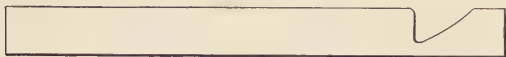
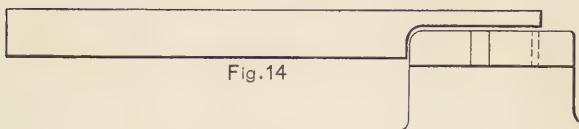
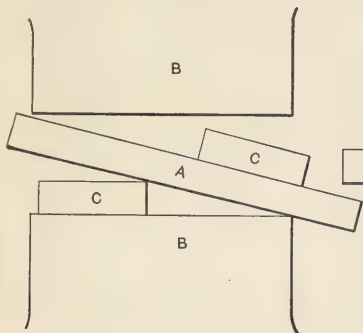

Fig. 13
Fig. 14
Fig. 19.
**Cutting-off Tool.**—The first lathe tool that we will take up will be the cutting-off or parting tool. Fig. 13 shows how it should be made. Always use the set hammer shown in Fig. 19, Chapter I., then flatten down as in Fig. 14, keeping the top side straight and letting
Fig. 18 shows two views of a cutting-off tool that is a favorite with machinists who have used it. It is made by offsetting the stock before forging the blade. This offsetting can best be done under the dies of the steam hammer if one is at hand, as illustrated in Figs. 19